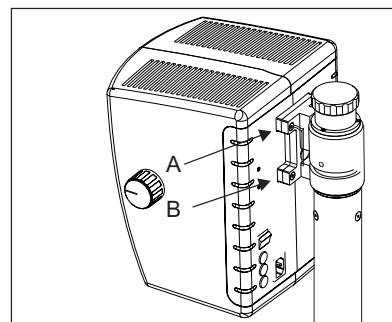

Fig. 7
- 7.9 Secure the illumination box with four allen screws provided using wrench 5mm. See fig 7.